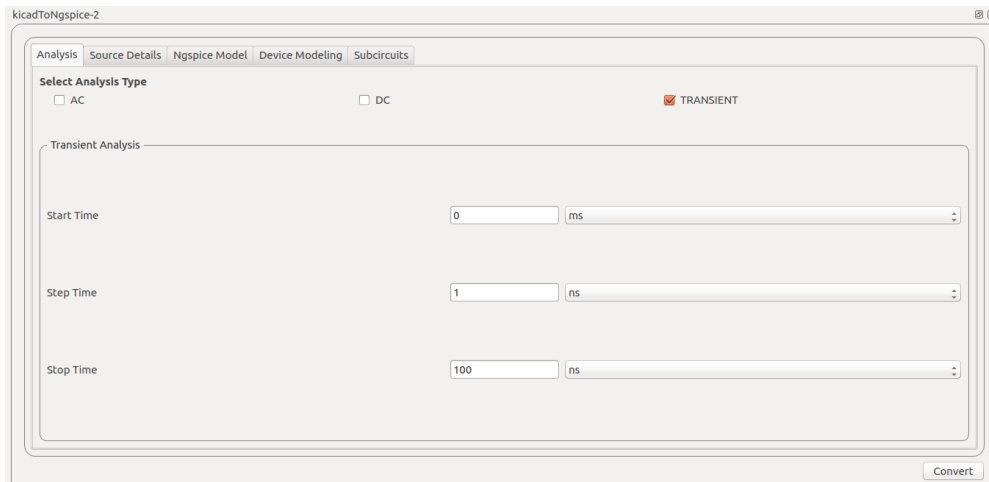
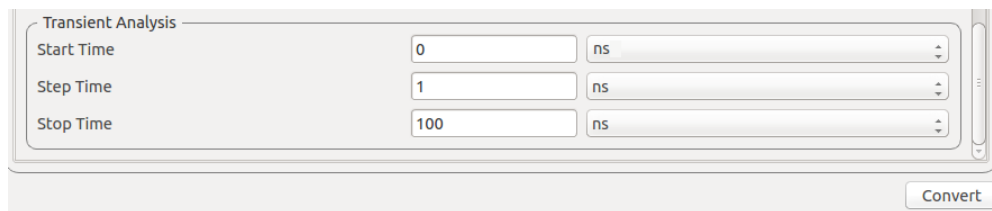

Figure 9.11: Analysis Part I
Figure 9.12: Analysis Part II
5. After creating the schematic, click on **KiCad-to-Ngspice converter** and select the type of analysis as transient as shown in Fig. 9.11 and set the start, step and stop time as shown in Fig. 9.12